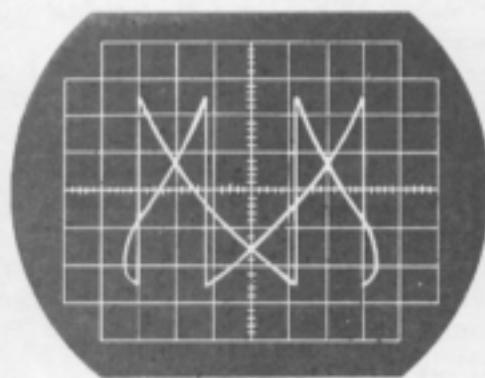

Fig. 13 Lissajous pattern
4. Adjust VR5 so that a Lissajous pattern is traced on the oscilloscope (Fig. 13).